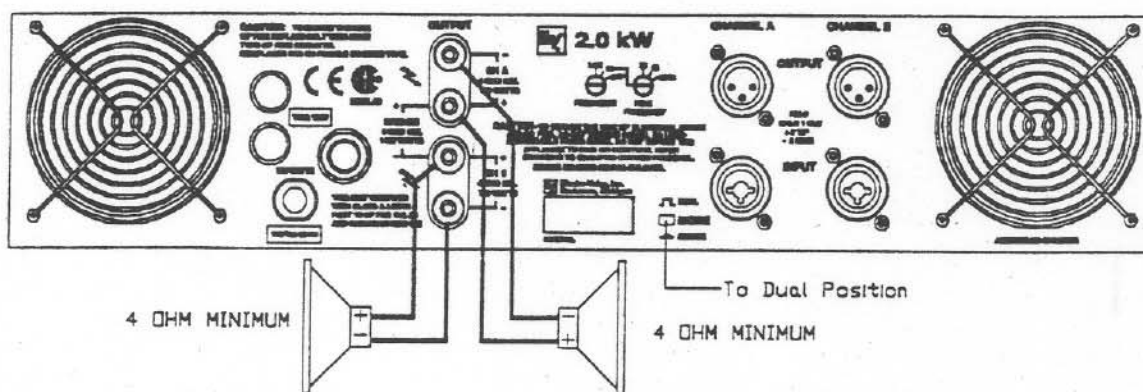

Figure 2
**DUAL MODE** - In the dual mode of operation, each channel may be operated independently into a minimum load impedance of  $4\Omega$  (see figure 2). After installation and hookup, verify that the MODE switch is in the "DUAL" position and that the level controls, located on the front panel, are in the fully counterclockwise (full attenuation) position. Apply power to the amplifier and slowly rotate the level controls clockwise until the desired output power is obtained. If either the "PEAK A" or the "PEAK B" LED is illuminated, reduce the input signal level by rotating the corresponding level control counterclockwise until the LED is extinguished.